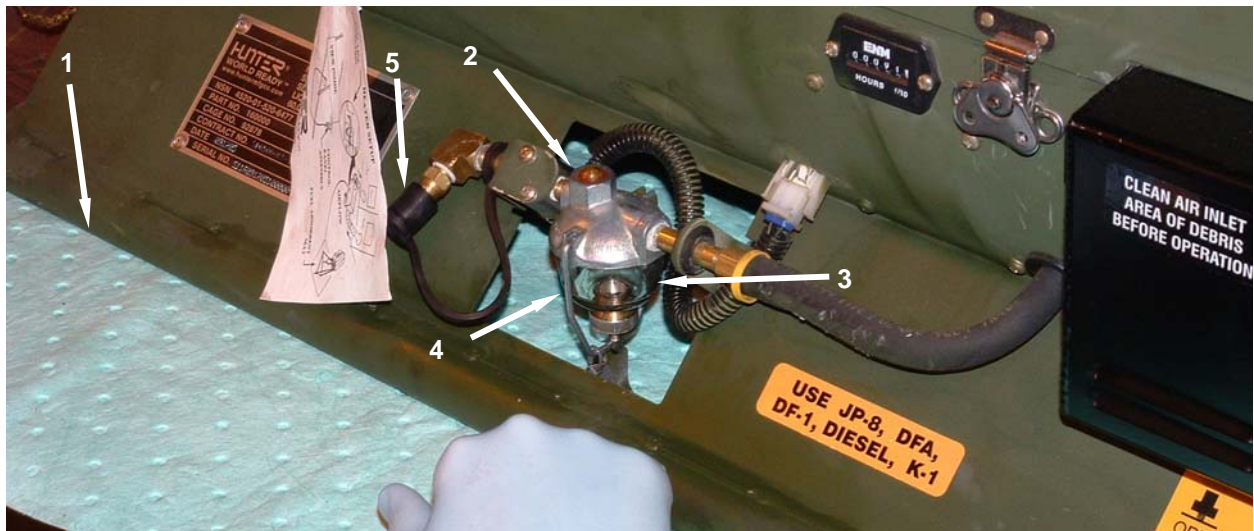

Figure 18. Prepare for Movement – Drain Sediment Bowl.
26. Place a fuel absorbent mat (**Figure 18, Item 1**) under the sediment strainer (**Figure 18, Item 2**). Remove the bowl (**Figure 18, Item 3**) from the sediment strainer by loosening the knurled nut retaining the bale (**Figure 18, Item 4**), and lifting the bale clear of the bowl. Avoid spilling fuel.
27. Empty the bowl (**Figure 18, Item 3**) into a clean container, and tilt the heater for at least 30 seconds to allow any remaining fuel to be captured. Close the fuel drain fitting (**Figure 17, Item 1**).
29. Install the bowl (**Figure 18, Item 3**) onto the sediment strainer (**Figure 18, Item 2**) and retain in place with the bale (**Figure 18, Item 4**). Tighten the knurled nut to secure the bale onto the bowl. Refer to WP 0035 00 for information as needed.
30. Wipe all fuel from heater surfaces with fuel absorbent mats (**Figure 18, Item 1**). Ensure the heater fuel fittings have been wiped down as well. Install the cap (**Figure 18, Item 5**) on the heater fuel connection.